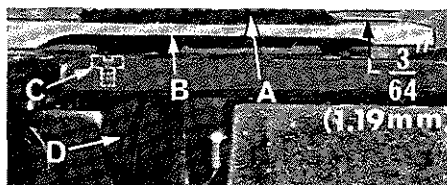

Fig. 13
Set the feed dog (A, Fig. 13) in the throat plate (B) so there is equal clearance on all sides. See that the tips of the teeth extend the depth of a tooth or approximately  $\frac{3}{64}$  inch (1.19 mm) above the throat plate and are parallel with the throat plate at high point of travel. Adjust the supporting screw (C), under the feed dog, to maintain this setting. Screw (D) is used to hold feed dog in position.